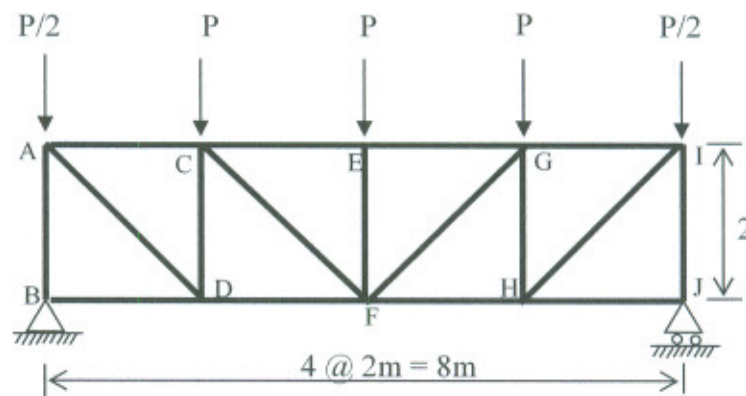

Figure Q5
- Q5** Refer to Figure Q5 and the data below: